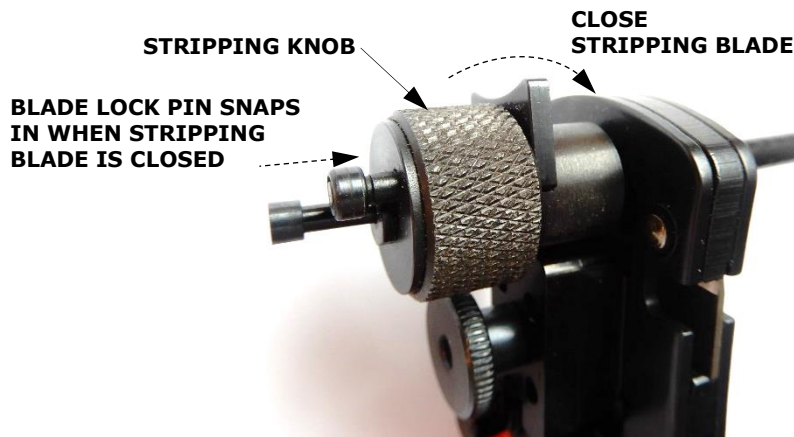

Figure 6
- 1.3 Hold the cable securely so that it does not move out of the stripping station. Then, close the stripping blade until the blade lock pin snaps in (the gap in the tool also will be closed). See Figure 6.